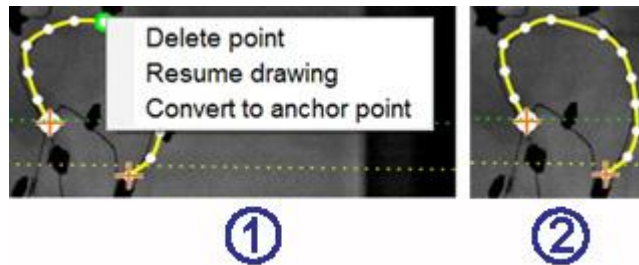

Figure 229. Delete point option
Delete point guide (Figure 229)
- ① To delete a point, right-click on the point and select **Delete point** (**Figure 229**). You will not get a confirmation dialog and you cannot restore that exact point.
- ② The point is gone. (Click to add a new point.)